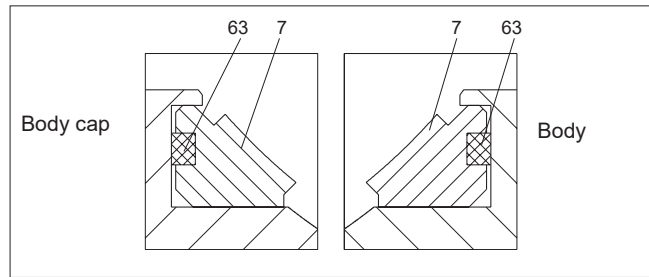

Fig. 21 S seat (2")
- Place the back seal (63) in the ball seat (7); see Fig. 21. Place the seat in the body (1).